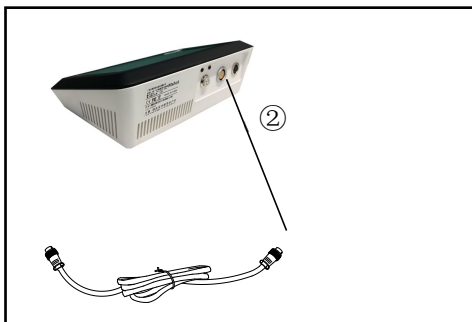

Figure 2
2.1.1 As shown in Figure 2, find the position ② of the transmission cord adapter on the back of the power control box , and connect the back transmission cord.